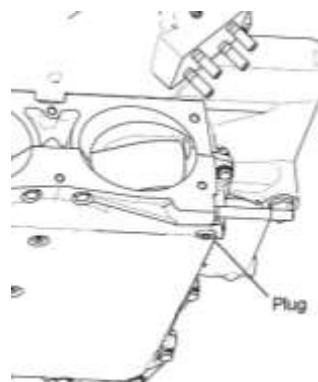

Figure 2
7. Remove the plug in the induction system (Figure 2).